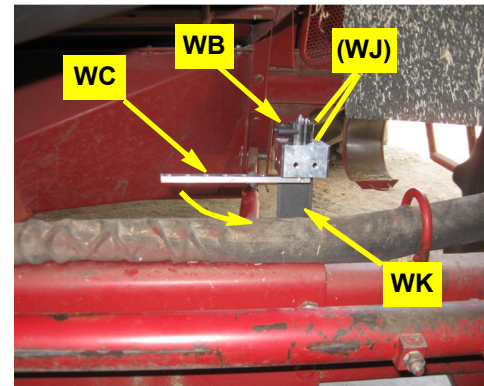

Figure 2b: WAS assembly installed
- b. Using hardware **WJ** (not visible), install the WAS assembly from step 1 on the axle side of bracket **WK**. Have the wire connector **WB** on top, pointing toward the center of the machine. Connector arm **WC**'s working arc will be toward the rear of the machine (Figure 2b). Use the slot in **WK**, as required, to raise **WC** clear of anything on the axle.